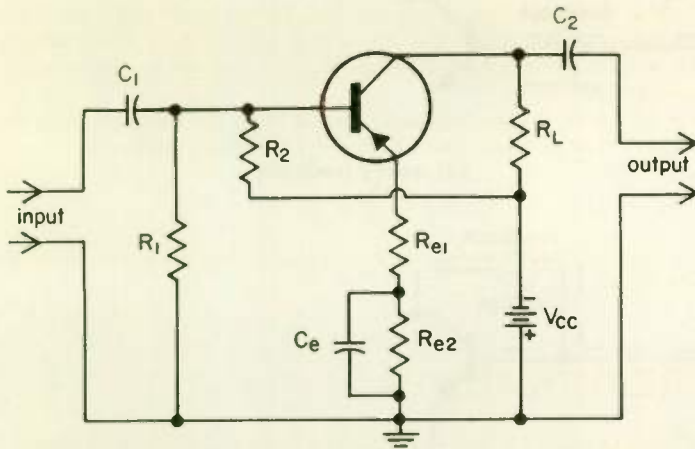
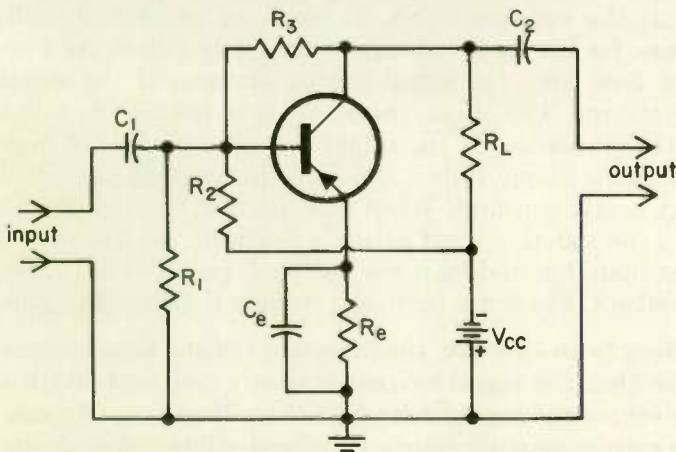
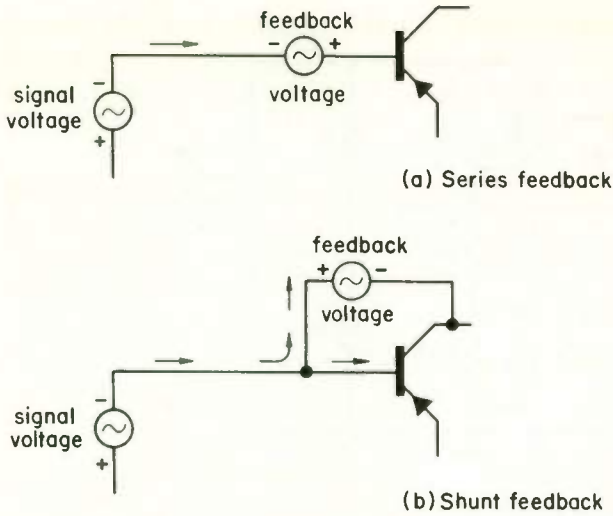
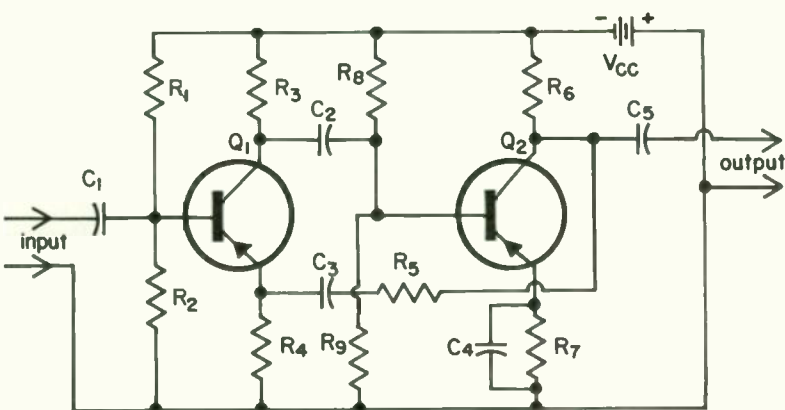

Fig. 21 Series or current inverse feedback.
Fig. 22 Shunt or voltage feedback.
Fig. 23 Comparing series and shunt feedback.
Fig. 24 A two-stage amplifier with loop feedback.
The circuit of Fig. 21 is identical to that of Fig. 8(a) except that only part of the temperature stabilization resistance R_e in the emitter circuit is bypassed by C_e . The signal current as well as the d-c bias currents must pass through R_e . Hence a signal voltage develops across R_e . We have previously seen how the d-c voltage drop across R_e opposes the base bias voltage source and thus reduces the base bias current. Similarly, the a-c signal voltage developed across R_e opposes (that is, is out of phase with) the incoming signal voltage and thus reduces the signal current into the base.
The shunt inverse feedback circuit of Fig. 22 is identical to the circuit of Fig. 8(a) except for the addition of R_3 to feed some of the signal voltage output from the collector back to the base. The feedback will be negative, since the output signal voltage from a common-emitter stage is out of phase with the input-signal voltage, just as the output-signal voltage from a vacuum tube is out of phase with the input voltage.
14 OPERATING THEORY . . . To see the significant difference between the series feedback of Fig. 21 and the shunt feedback of Fig. 22, refer to Fig. 23. Assume that part of the cycle when the incoming signal voltage has the polarity shown. The feedback voltage shown in (a) is that developed across the emitter resistor, and it has the bucking polarity shown. (Since the feedback voltage is in series with base and emitter, it makes no difference whether we show it as base circuit or emitter circuit.) It is in series with the signal voltage and, because of its opposing action, cuts down the signal current into the base to less than would be the case if the resistor were not there. The feedback circuit of (b) has the opposite effect. It forms an additional path, shunting the base, for the incoming signal current to follow. As a result the current flow from the signal source increases if the signal voltage stays constant. The effect, therefore, is to reduce the input impedance to the transistor. If the signal voltage source is of high impedance, such as the output from a common-emitter stage, the signal current will stay nearly constant. When this constant current divides as in Fig. 23(b), the signal current actually reaching the base to be amplified is less than it would be if the feedback path did not exist. Hence shunt feedback, like series feedback, reduces the amplifier gain.
When inverse feedback works between input and output of individual stages, as in Figs. 21 and 22, it is called *local feedback*. Loop feedback is also used; then the signal is fed back to some preceding stage. In Fig. 24 signal from the collector of Q_2 is shown fed back to the emitter circuit of Q_1 through R_5 and C_3 .
- The purpose of C_3 in Fig. 24 (*is*) (*is not*) to shift the phase of the signal fed back 180° , so that it provides negative feedback to Q_1 .
2. Do . . . RE is equivalent to R_c of Fig. 21, which was shown to produce inverse feedback. Because of the inverse feedback, stage gain is reduced. The inverse feedback also reduces distortion, but that is not the primary reason for using RE .